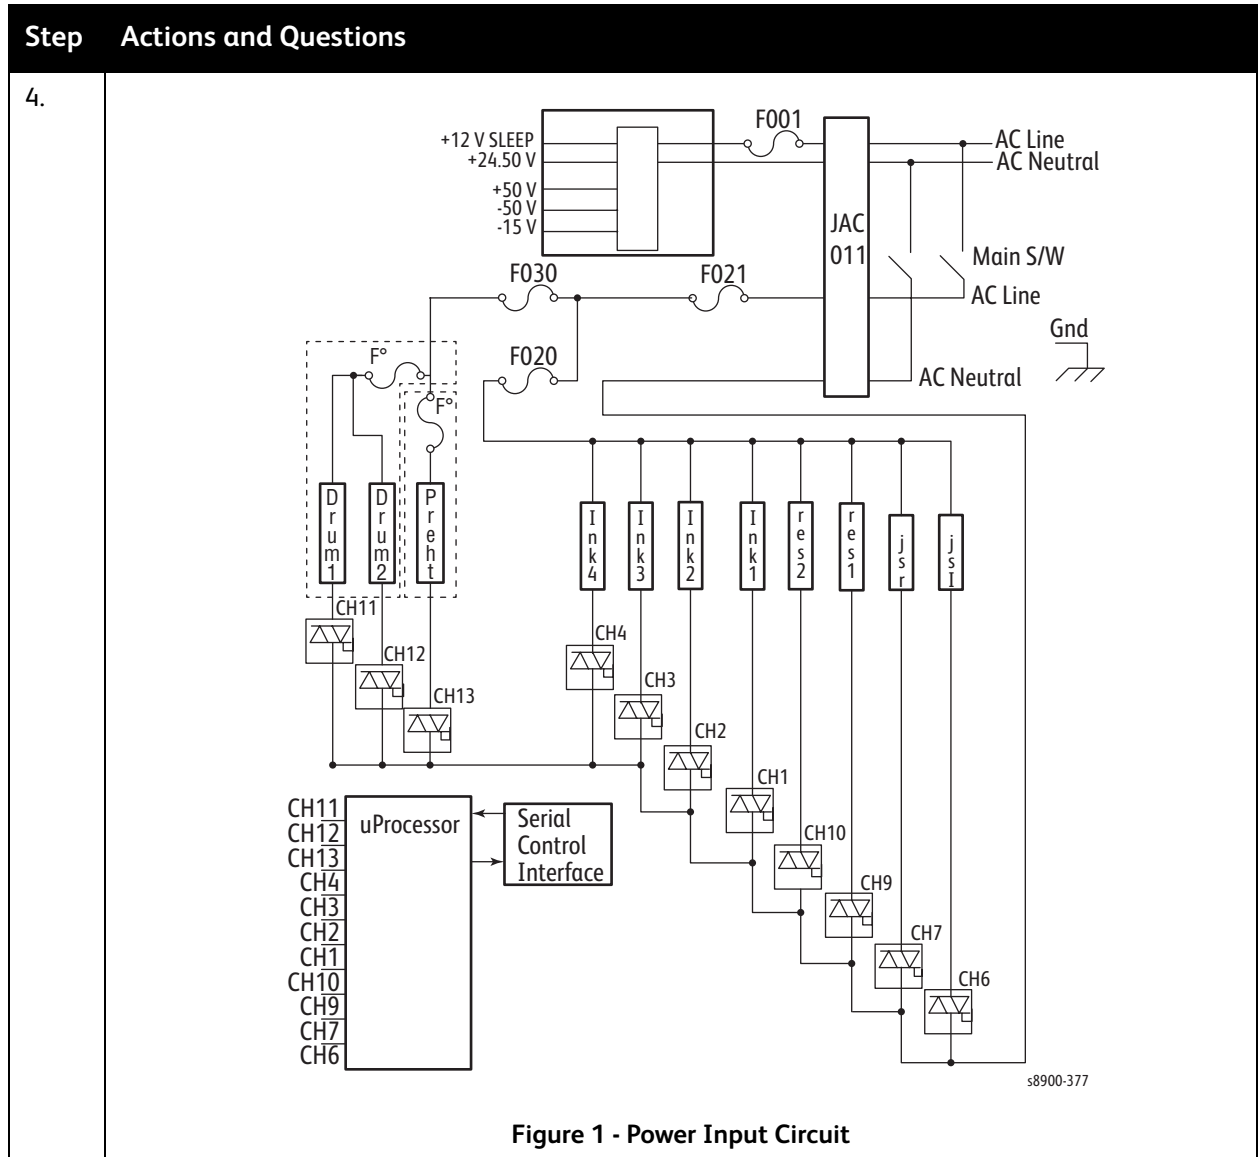

Figure 1 - Power Input Circuit
3.	Refer to <a href="#">Figure 1 - Power Input Circuit</a> on page 2-133 and check the power input circuit and its connectors.